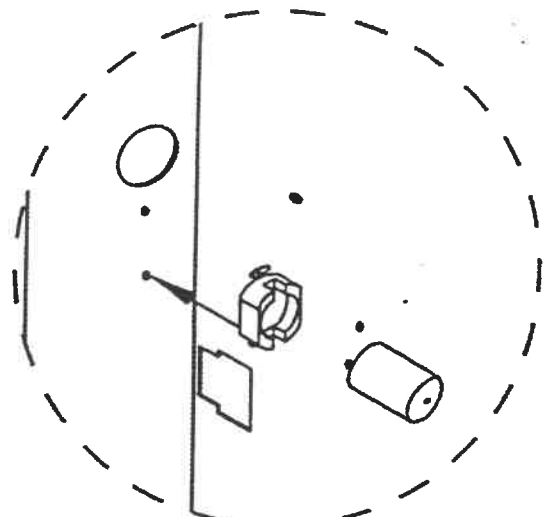

FIGURE 3
4. Refer to figure 3. Position the starter base (item #5) to align with the mounting holes in the side wall of the panel. Note: The short wire lead should be positioned on top.
8. Locate the poles on the starter (item #6). Align the poles to the terminal slots in the starter base (see figure 3) and carefully turn the starter clockwise until securely fastened.